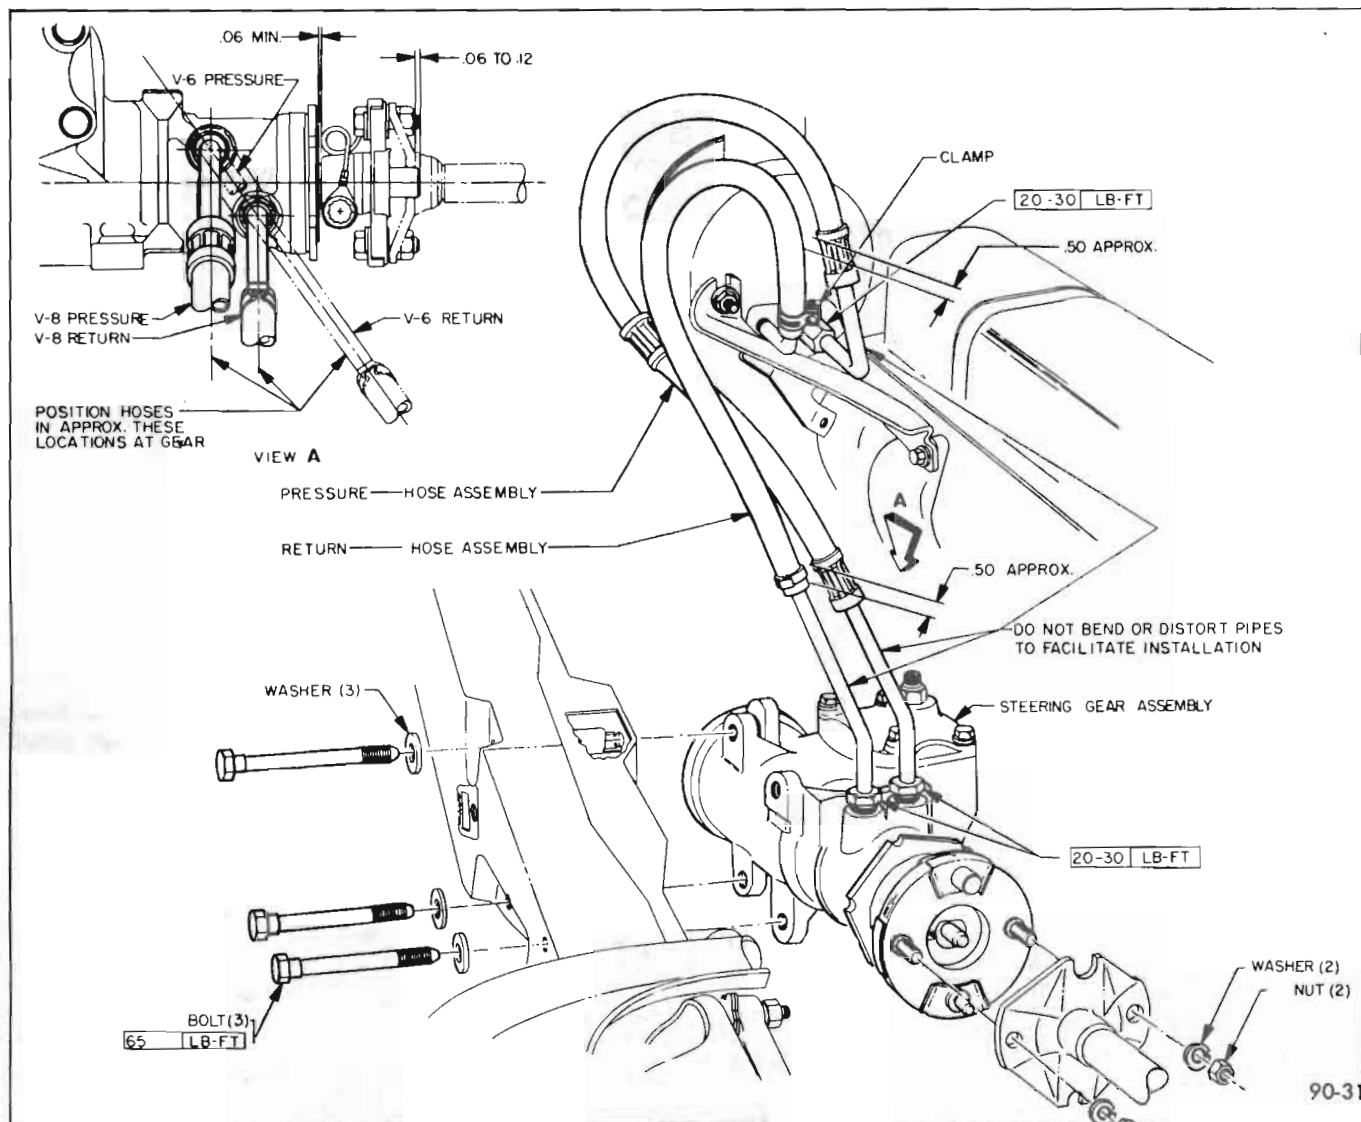

Figure 90-31—Power Steering Gear Installation - 43 and 44000 Series
1. Install the gear assembly by reversing the procedure for removal. See Figures 90-31, 90-32, and 90-33 for tightening specifications. Torque pitman nut 140 lb. ft. Torque pinch bolt to 30 lb. ft. Be sure there is 1/16" clearance between adjuster plug and gear coupling (see Figure 90-31).